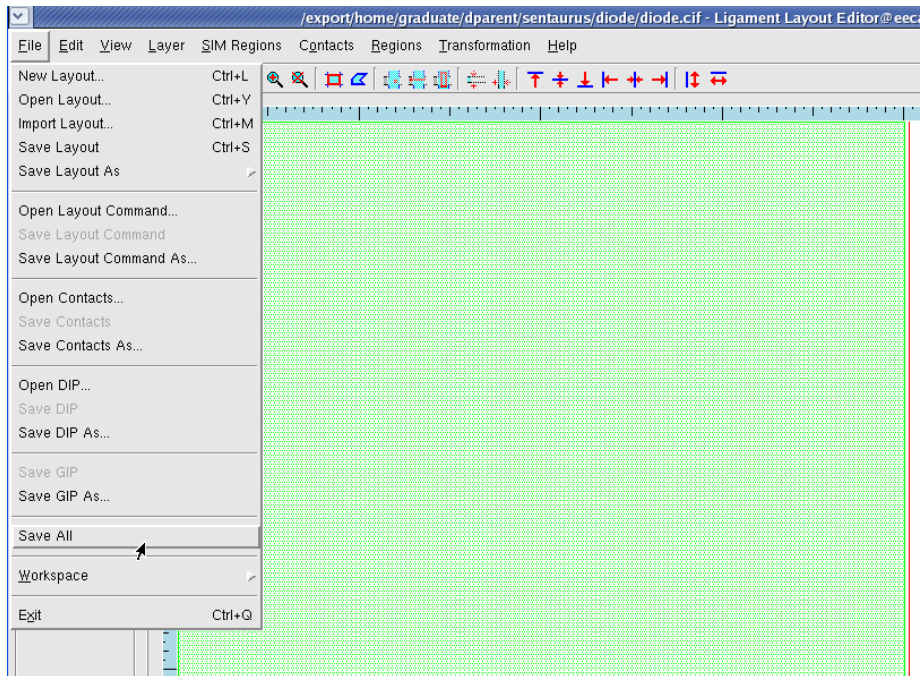

Figure 23: Saving your results.
12. Save you work by going to file... Save All (Figure 23). Save the file as **diode.lyt**.